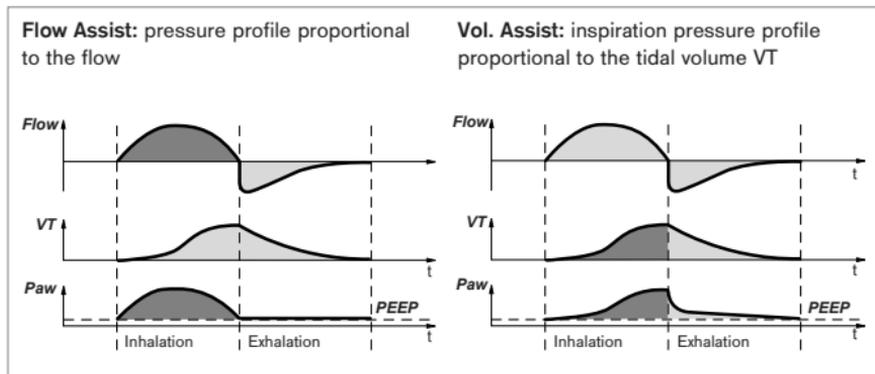

Fig. 1 Rules for Flow and Volume Assist
For SPN-PPS, the pressure support should ideally be proportional to the patient's inspiratory effort. If the patient's breathing is shallow, little support is provided. More support is applied for a deep breath. The absolute amount of support depends on both the Flow Assist and Volume Assist parameter settings as well as the patient. The two types of pressure support, pressure support proportional to volume (Volume Assist) and pressure support proportional to flow (Flow Assist) [Fig. 1] can be combined. If set correctly, only the illness-related higher work of breathing is continuously adapted and compensated – the physiological work of breathing continues to be provided by the patient alone. Flow Assist helps overcome the resistance (R) and the pressure support is proportional to the flow. In contrast, Volume Assist compensates the elastic resistance (C) caused by reduced elasticity of the lungs. The pressure support is proportional to the tidal volume. The relationship between the inspiratory effort and the pressure support remains constant for the same settings, while the pressure support varies for every breath. If no spontaneous breathing is detected, the mechanical support also ceases. Adequate apnoea and minute volume monitoring must therefore be in place.